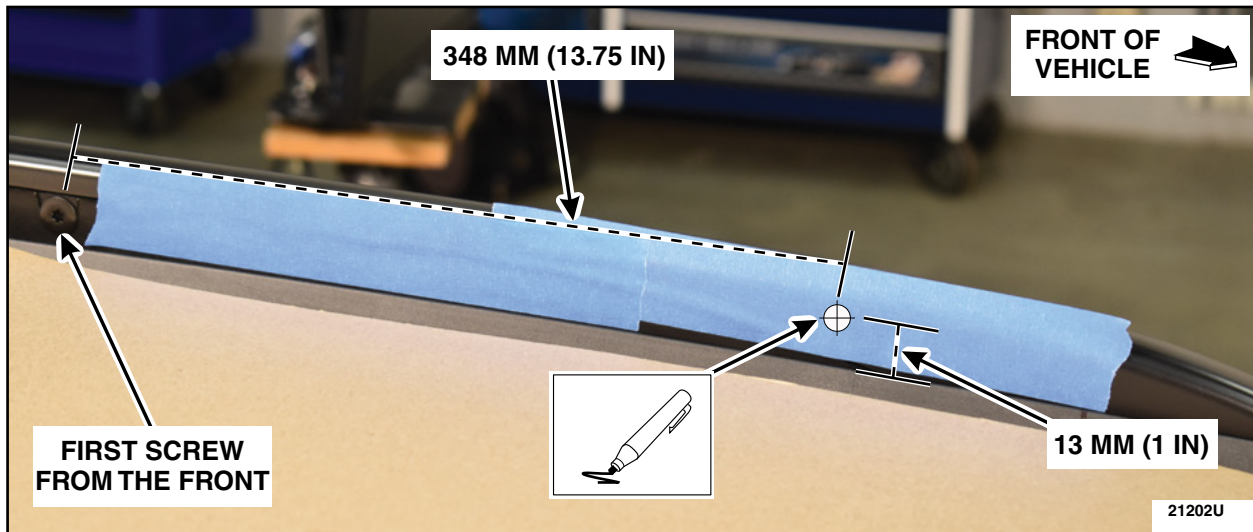

FIGURE 18
7. From the first screw from the front, measure 348 mm (13.75 in) from the screw towards the front of the vehicle and up 13 mm (.5 in) from the top of the roof rack base. Mark the measurement on the tape. See Figure 18.